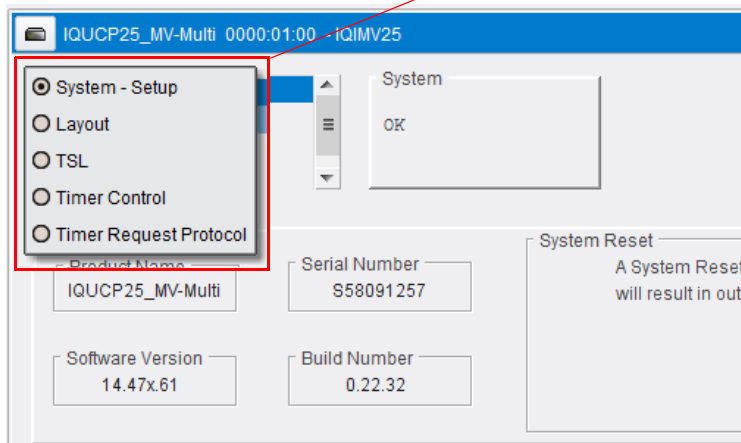

Fig. 6-62: List of Templates
- Right-click in the **Template Selection** box to display a list of templates (see Figure 6-62) and click on the template required.